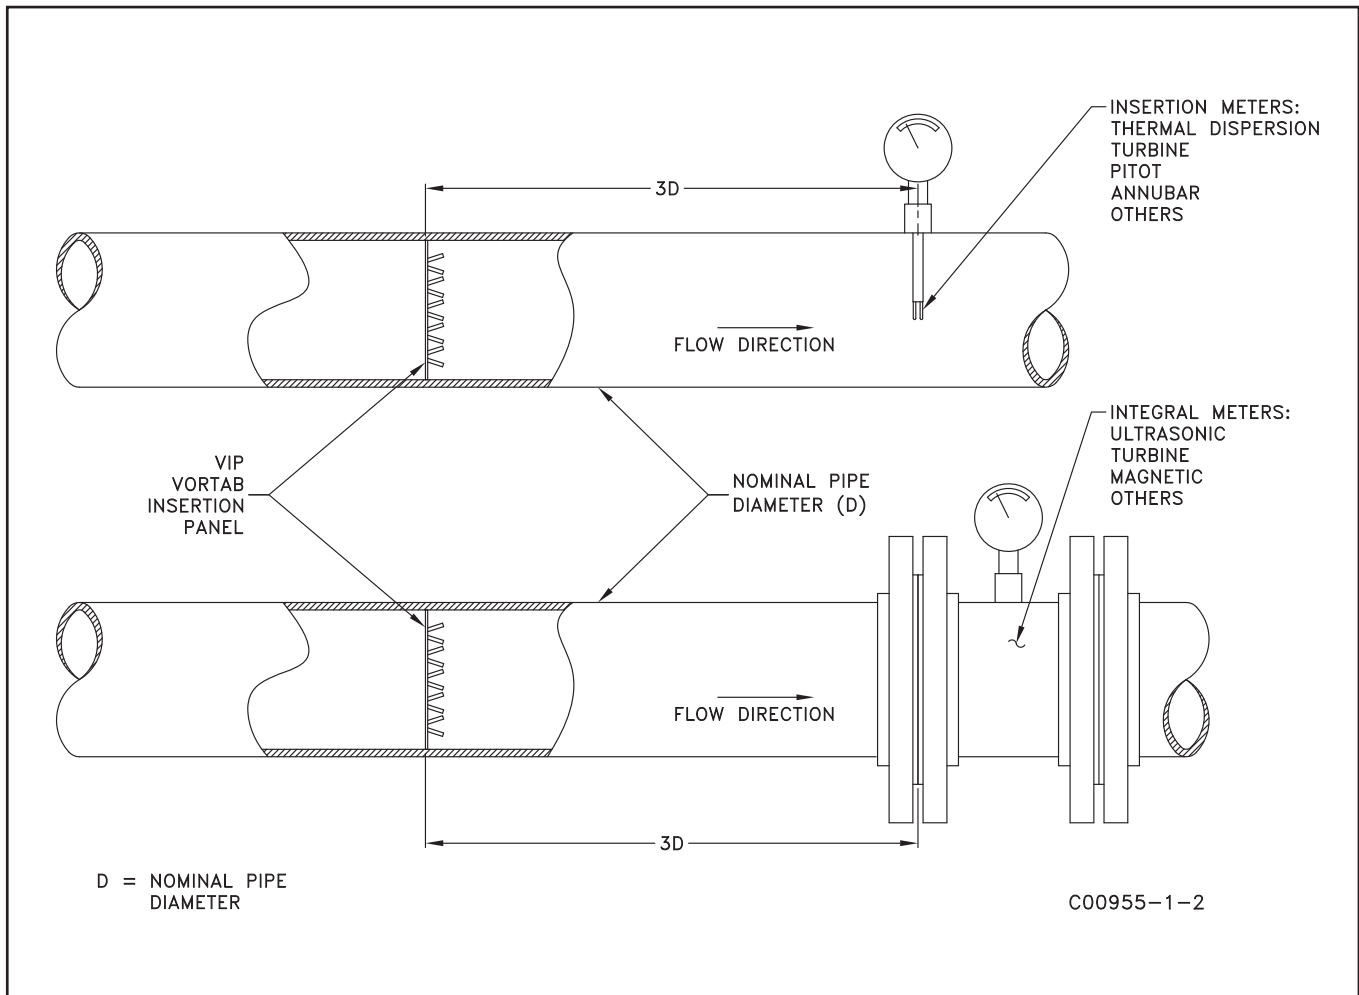

Figure 2-1. VIP Installation Recommendations
- The VIP’s base plate, in which the tabs extend from, should be positioned at a distance of three nominal pipe diameters (3D) upstream from the flow meter location. See Figure 2-1.